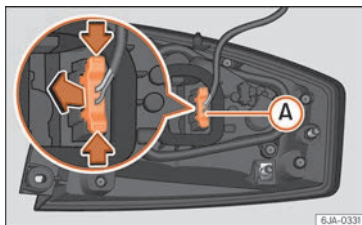

Fig. 99 Light connector at the rear of the rear light unit.
- Disconnect the light connector **(A)** **» Fig. 99** by moving its side levers (arrows) and pulling the connector outwards.